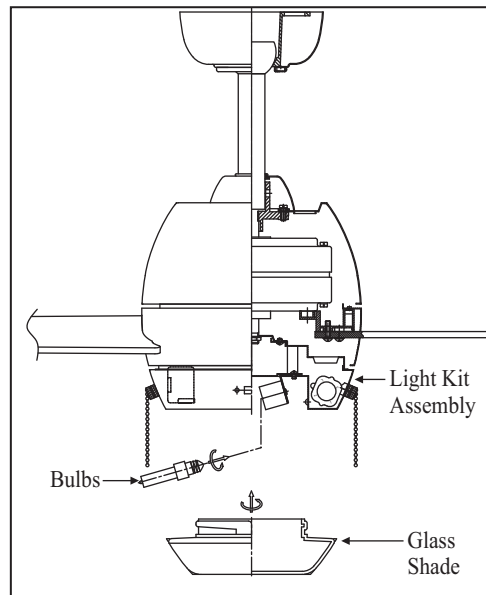

Figure 18
5. Raise glass shade up against light kit and secure it to fan by twisting glass clockwise until snug. **Do not overtighten.** (Fig. 18)